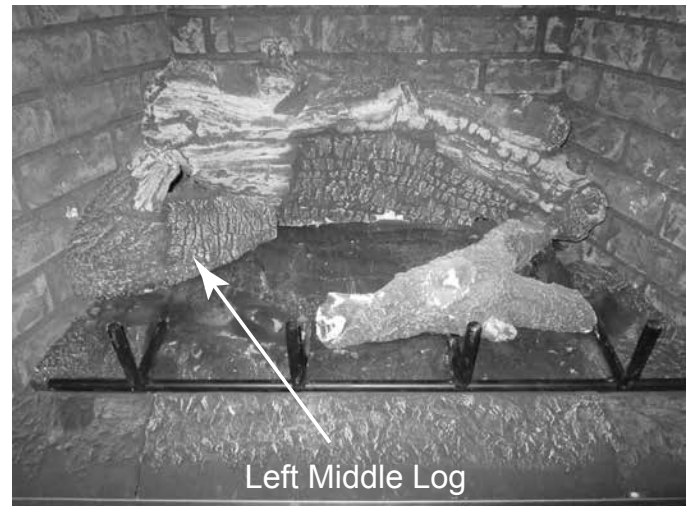

Figure 11.12
- Place left middle log on the locating pin on the burner top. See Figure 11.12.